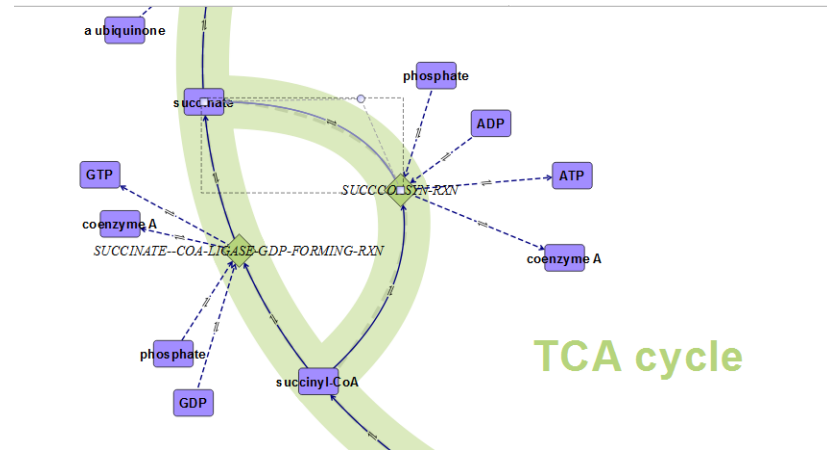

Figure 97 Split in the TCA cycle pathway aligned to a background curve path
- e Repeat the edge conversion to a curve and alignment for the edge between the SUCCCOASYN-RXN and succinate nodes (Figure 97).